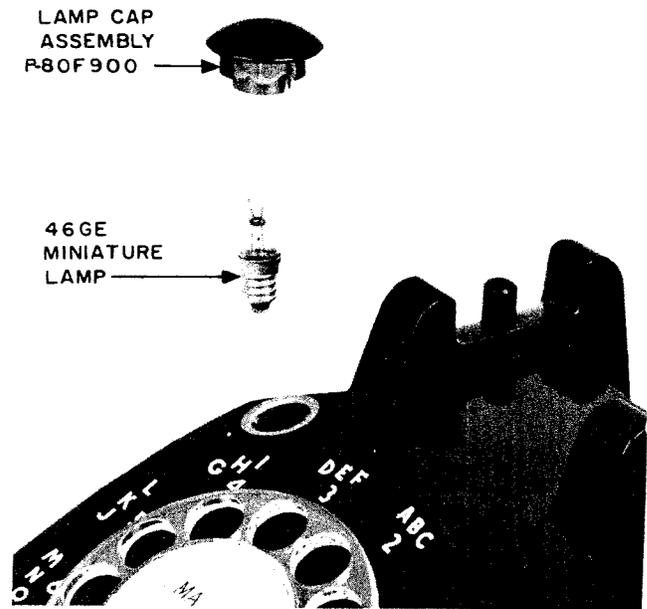

Fig. 4 — Lamp Assembly, 500H, P Sets
**6.02** To remove lamp, turn lamp cap and lamp counterclockwise (see Fig. 4).